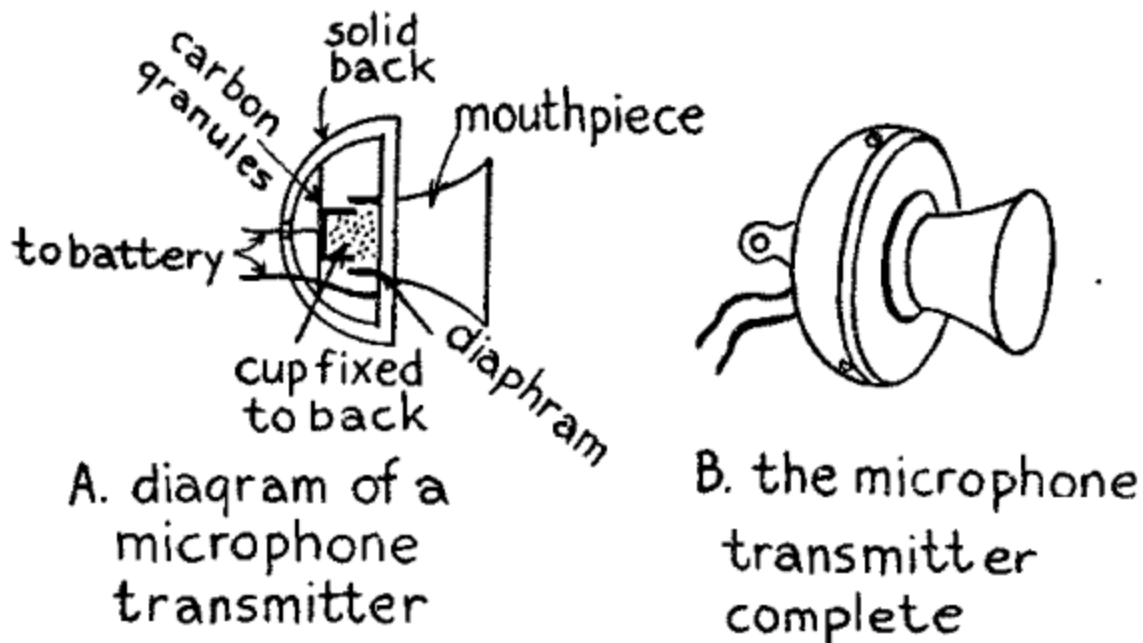

FIG. 84.—Standard Microphone Transmitter.
it will not buzz or sizzle. It is shown in *Fig. 84* and costs \$2.00. Any other good microphone transmitter can be used if desired.
In addition to the above apparatus you will need: (12) a *microphone transmitter* as shown in *Fig. 84*; (13) a battery of four dry cells or a 6 volt storage battery, and either (14) a *telephone induction coil* as shown in *Fig. 86*; (15) a *microphone transformer* as shown in *Fig. 87*; or a *magnetic modulator* as shown in *Fig. 88*. All of these parts have been described, as said above, in Chapter XVI, except the microphone modulators.